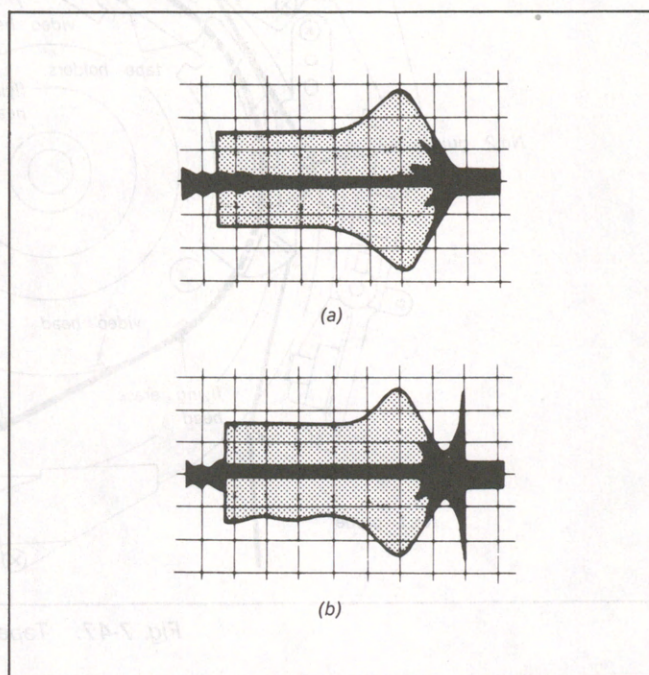

Fig. 7-50.
- 4) At the time, confirm if the free exit waveform can be taken within the ranges shown in (a) and (b) in Fig. 7-50. If not, adjust the waveform as shown in 7-4-5.